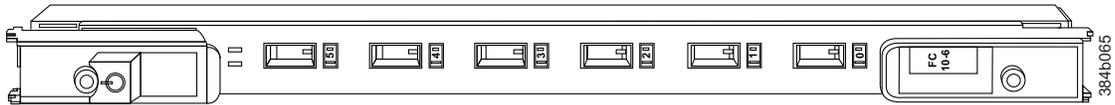

Figure 55. FC10-6 port blade, ports 0-5 from right to left
- Figure 55 on page 138 shows an FC10-6 port blade